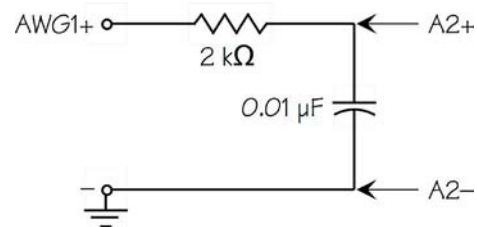

Fig. 1—Circuit setup
2. Build the circuit of Fig. 1. AWG1+ is the output of the Function Generator. A2+ and A2– are the A2 differential input that will drive one channel of the scope. (We use differential so that connecting the scope does not introduce a second ground.)